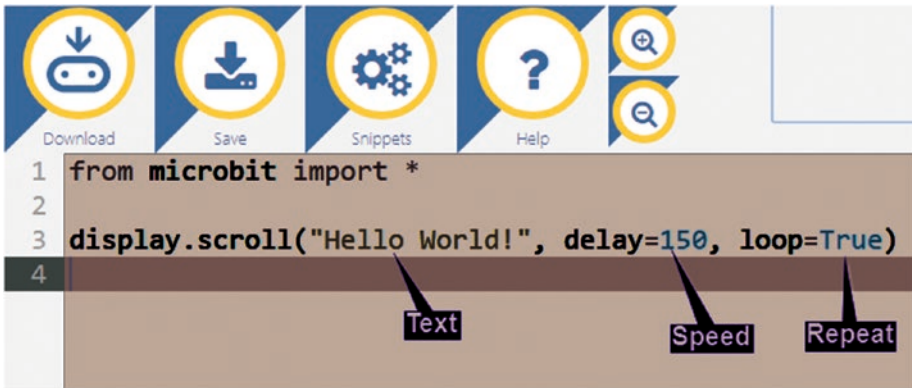

Figure 1-23. The ‘Hello World’ code on the code editor
4. Figure 1-23 shows the code window.